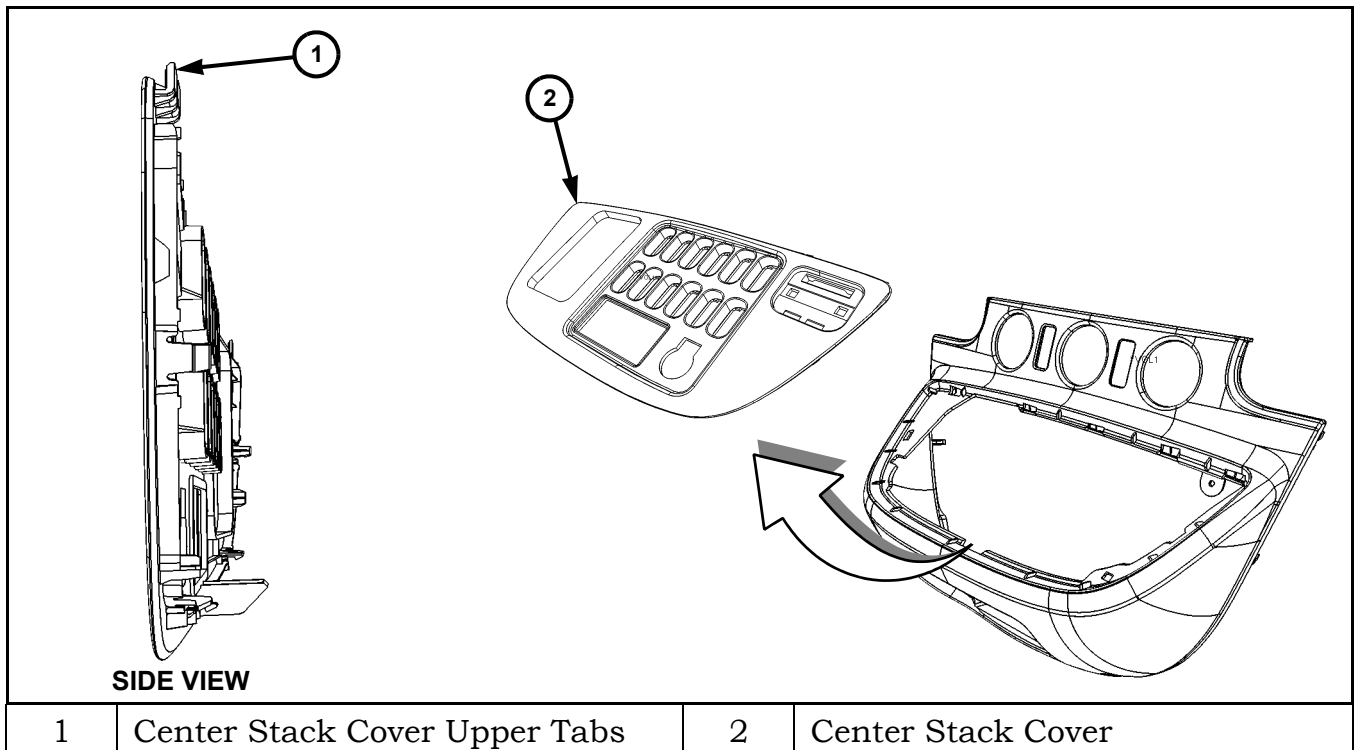

Figure 5 Removal of Center Stack Cover
5. Carefully lift the center stack cover from the bottom to prevent breaking the upper tabs (arrow). See Figure 5.